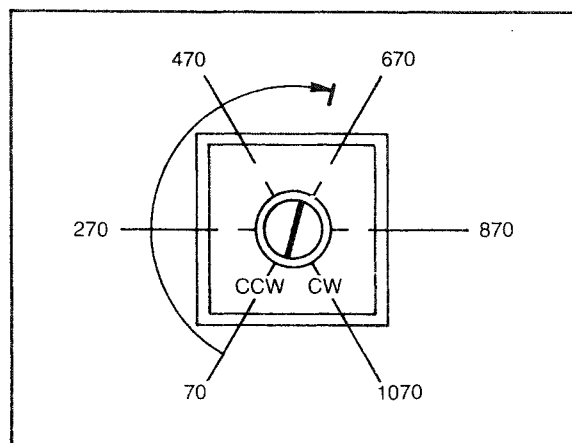

FIGURE 3 — LRA Set Potentiometer
8. Record the trip level DC voltage obtained in Step 7. Multiplying this value by 100 will give the percentage of RLA. For example, a reading of 6.50 VDC corresponds to 650 percent of RLA. This should be equivalent to the setting of the LRA set potentiometer on the SSOL. Figure 3 represents the LRA set potentiometer. The calibrating screw should be turned fully counter-clockwise then rotated clockwise to the desired setting.